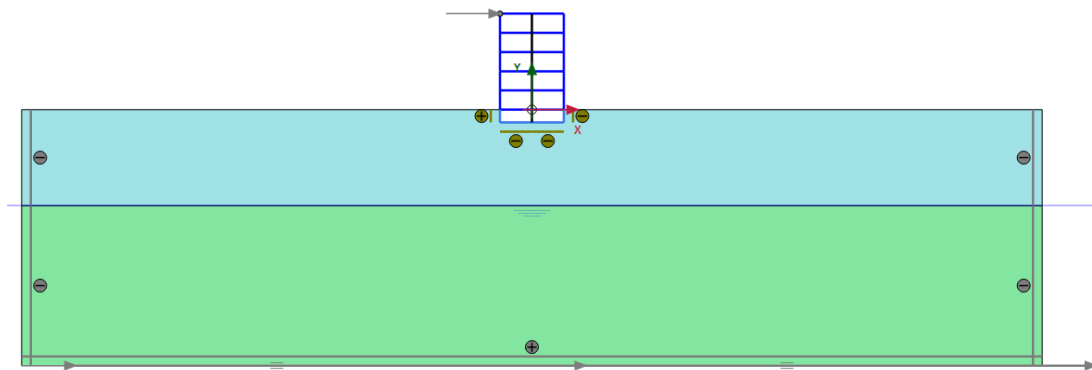

Figure 17-10: Construction of the building
- 3 The model for phase 1 is shown in Figure 17-10 \(p. 265\).